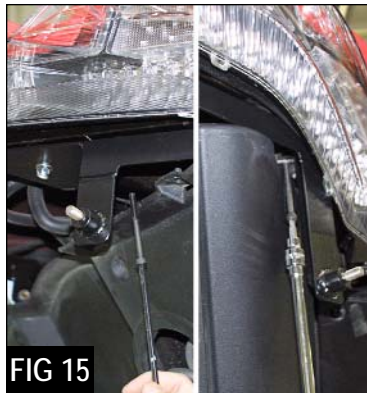

FIG 15
12. Secure the left side of the right bracket with the non-modified socket screw, using a 5mm Allen wrench. Secure the right side of the right bracket with the modified socket screw, using a 5mm Allen wrench (*Figure 15*).